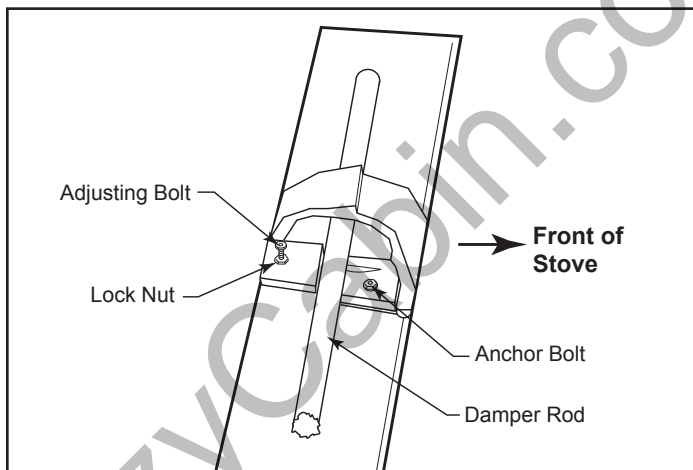

Figure 29 - Damper adjustment.
3. Loosen the adjusting bolt's lock nut. (Figure 29)